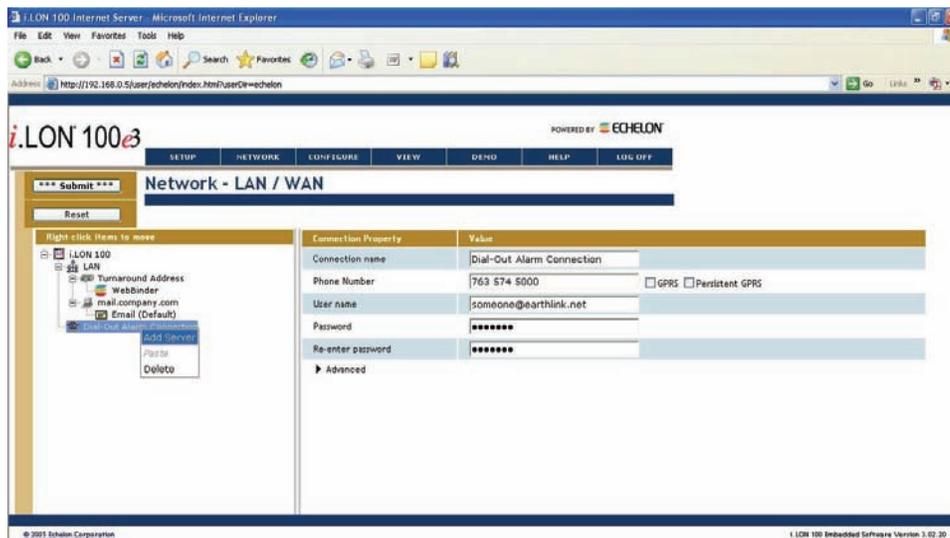

FIGURE 6-12. NEW SMTP SERVER
6. Type in the IP Address or name of your SMTP Server (see Figure 6-12).